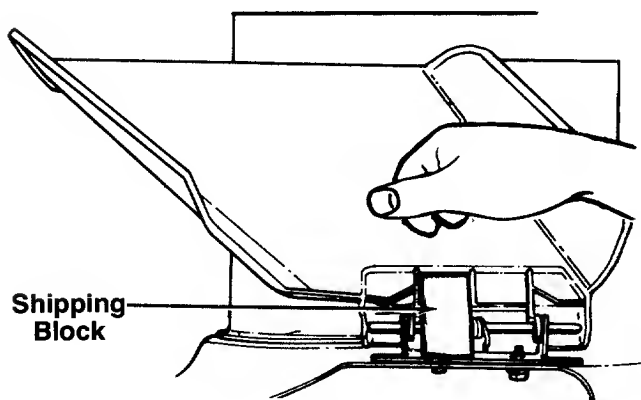

FIGURE 8.
1. The chute deflector on your mower is held in an upright position by a block for shipping purposes only. This shipping block must be removed and discarded before the mower is put into operation. See figure 8.